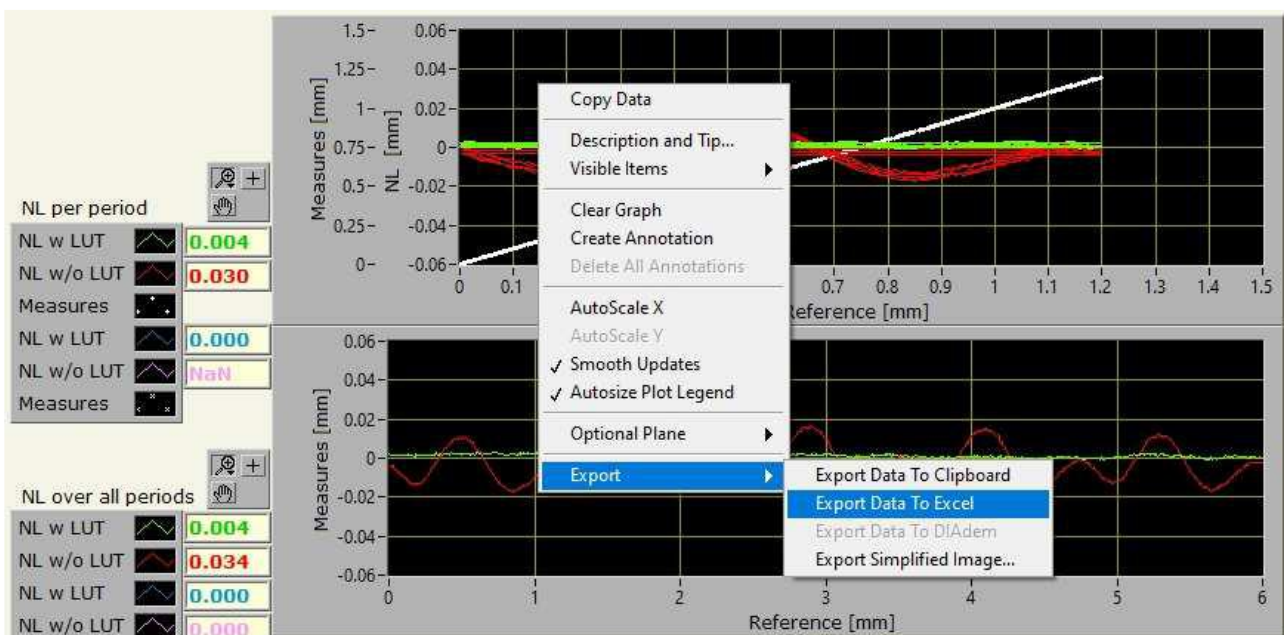

Figure 23 Export measurement data by right-clicking in the graph, selecting Export and then selecting your preferred export destination.
- 1) Right-click in the graph with the measurement that you want to export, see Figure 23